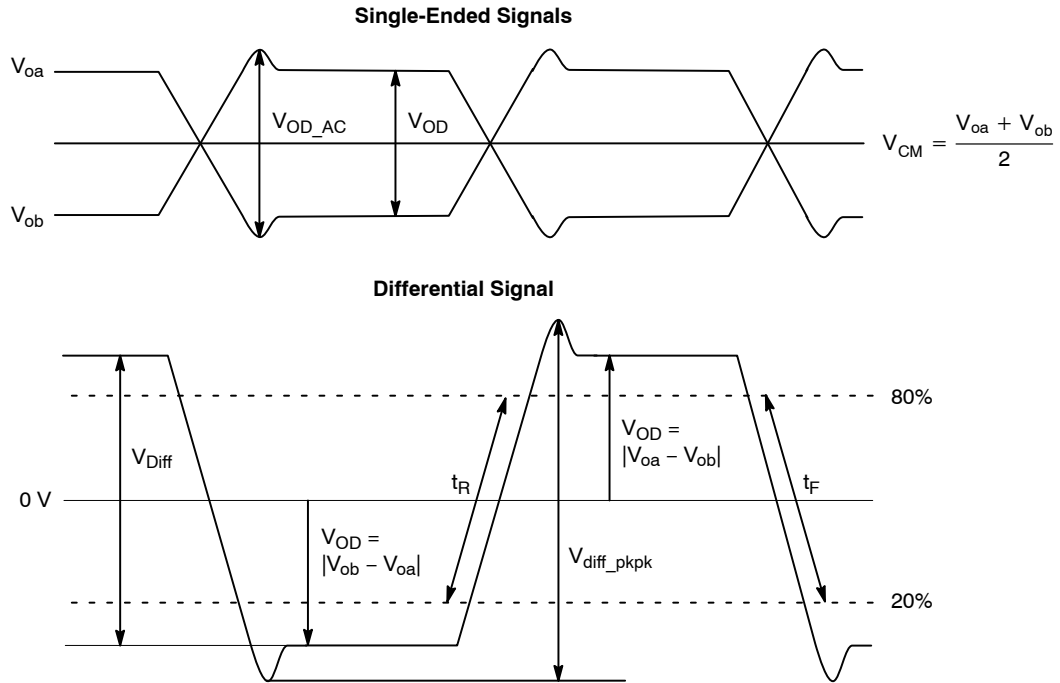

Figure 10. Single-Ended and Differential Signals
Figure 10 is the diagram defining differential amplitude V_{OD} , V_{CM} , and rise and fall times. To measure V_{OD} and
2. Rise and fall times are measured between 20% to 80% positions on the differential waveform, as shown in Figure 10.